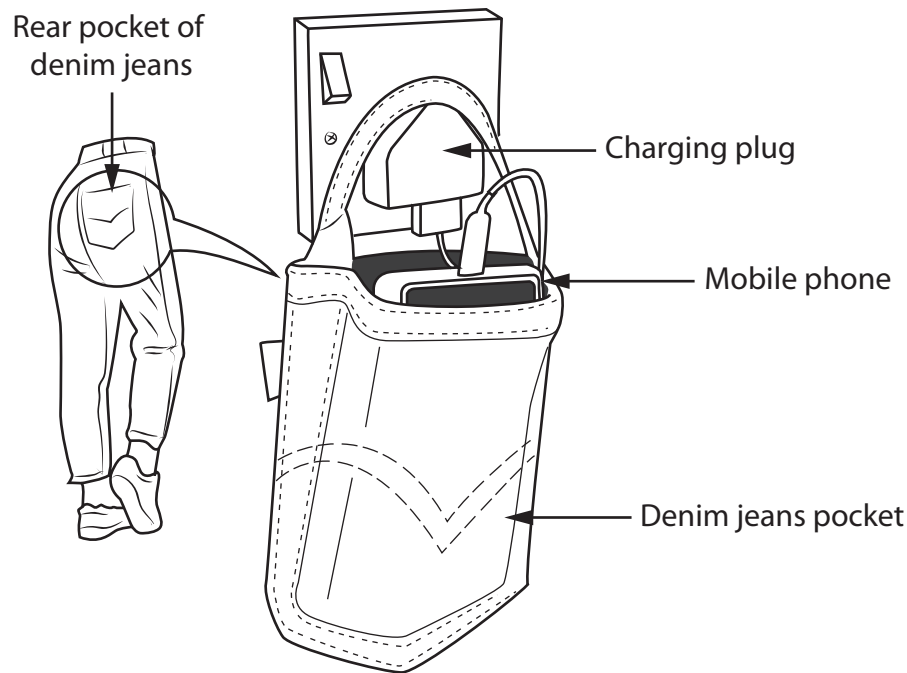

Figure 6
- 3 Figure 6 shows a mobile phone pocket hanger made from recycled denim jeans.